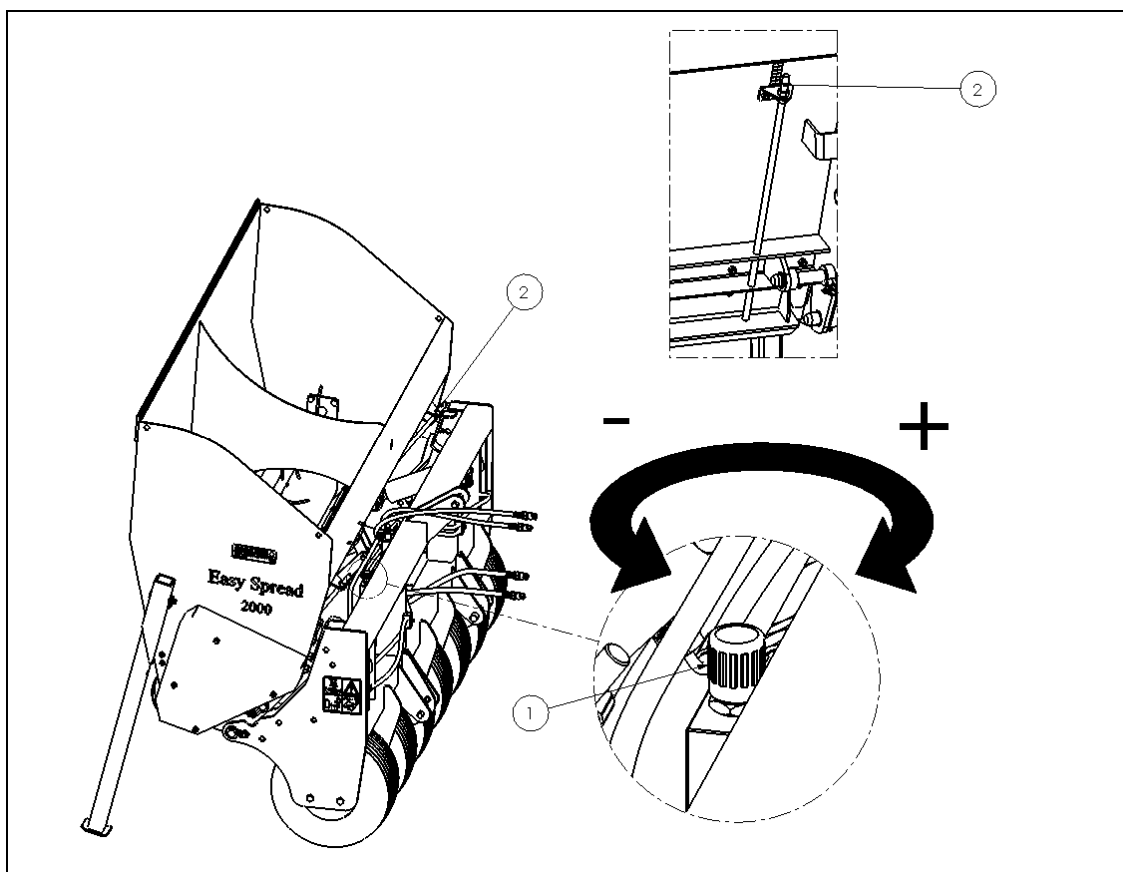

Figure 9
The hydraulic hoses for operating the gritting cylinder / agitator and dose lid should be attached to the other double-acting valve. The direction of the volume flow from the tractor makes the gritting cylinder/agitator turn and subsequently opens the dose lid. If the direction is reversed, the gritting cylinder/agitator will stop turning and the dose lid will close. The speed of the gritting cylinder/agitator can be adjusted with a regulating valve (1) (figure 9).